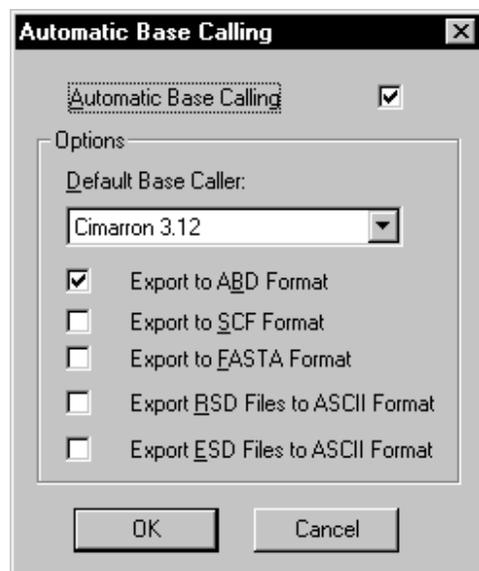

Figure 5-1. The Automatic Base Calling window.
1. On the **Configure** menu, click **Automatic Base Calling**. The Automatic Base Calling window appears (figure 5-1).